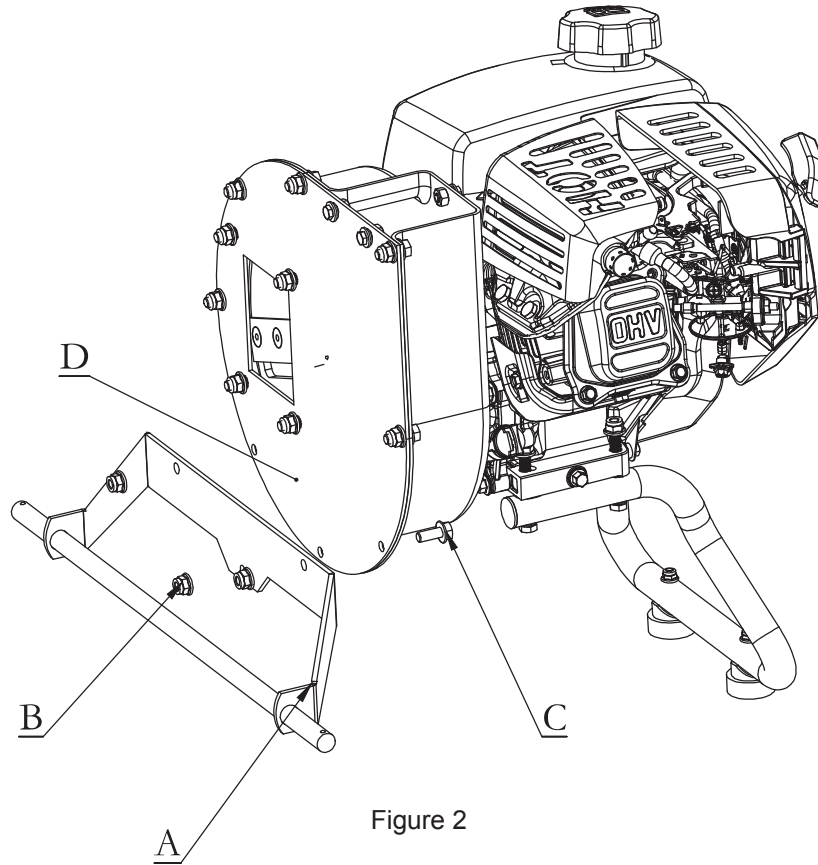

Figure 2
## 2. Install Wheels Stand (See Figure 2)
Fix the wheel bracket (A) on the housing (D) with three M8x20 bolts (C) and three M8 nuts (B). (See Figure 2)